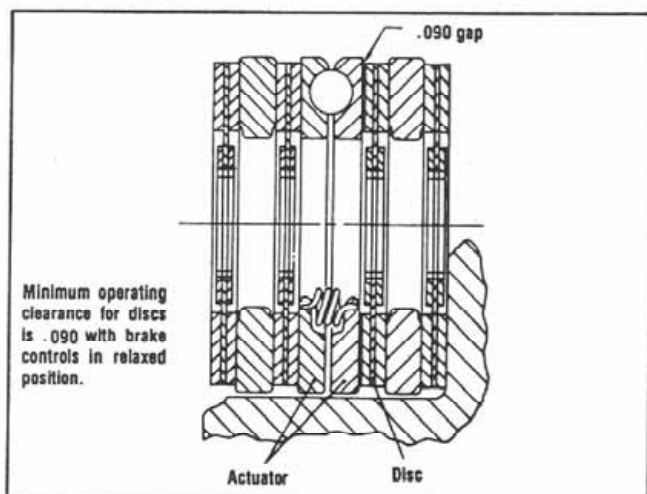
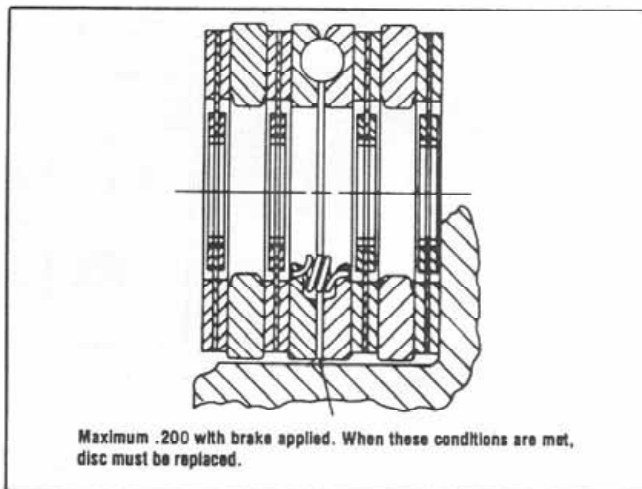
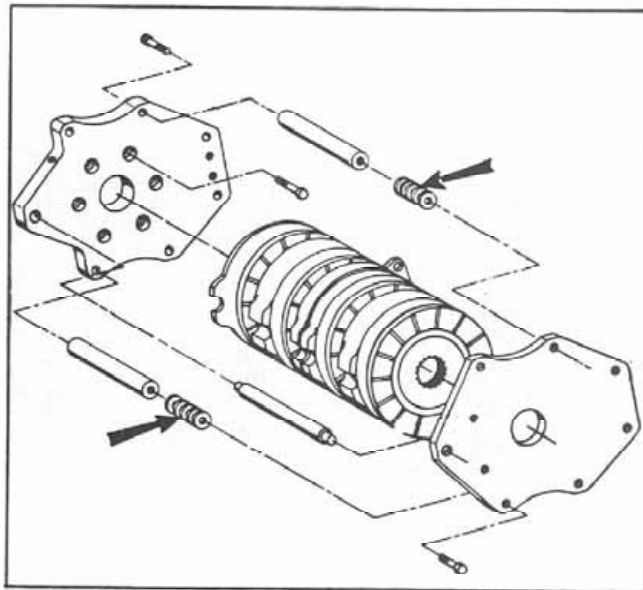

Figure 11:
Figure 12:
Figure 13:
15. After installing the outside brake plate and brake lever bracket, adjust the actuator linkage if necessary to give a minimum disc clearance of .090 inches (2.28 mm), with the brake in the OFF position (Fig. 11). If the actuator cap exceeds .200 inches (5.08 mm), with the BRAKE APPLIED (Fig. 12), either replace worn brake discs or remove shims between the outer brake plate and brake support pins (Fig. 13). When new discs are installed, also add the shims required.